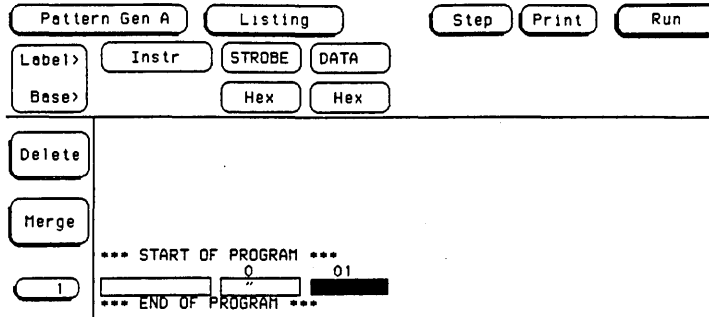

Figure 3-10. Program Field
4. Touch program field as shown in figure 3-10.